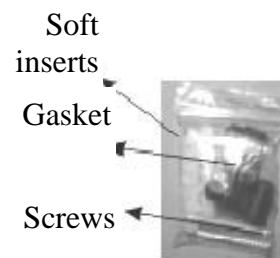

Fig. 3
- You need the following for installation: 2 soft inserts, 2 screws, 4 gaskets (all mentioned you will find in gift box). Fig.3.